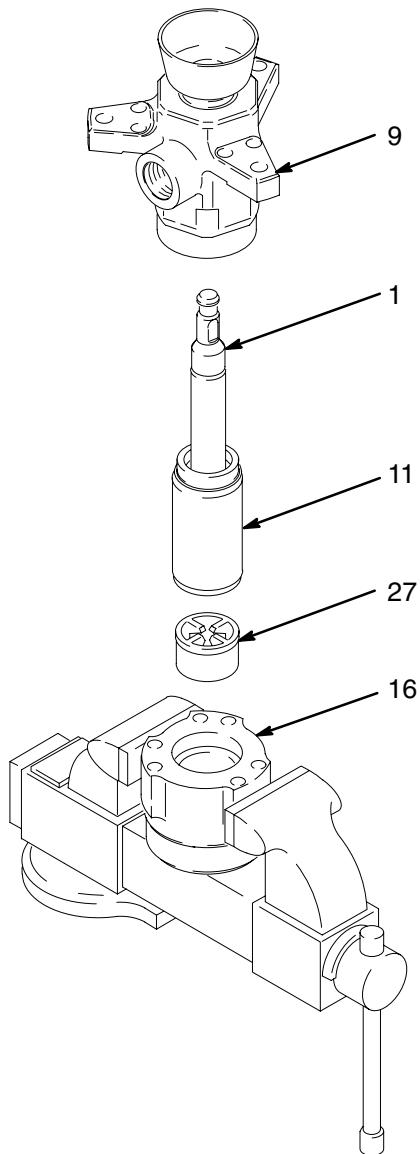

Fig. 6
4. Lift the outlet housing (9) straight up off the pump. Be careful not to scratch the displacement rod (1) while removing the housing. See Fig. 6.
5. Lift the cylinder (11), displacement rod (1), and piston assembly off the intake housing (16). Remove the ball guide (27) from the intake housing, and inspect the guide surfaces. See Fig. 6.
6. Using a rubber mallet, drive the displacement rod (1) and piston assembly out the bottom of the cylinder (11) until the piston comes free. Pull the rod and piston from the cylinder, being careful not to scratch the parts.
5. Lubricate the threads of the packing nut (2), and loosely install it in the outlet housing (9).
6. Lubricate the piston packings. Slide the displacement rod (1) and piston assembly down into the cylinder (11). The cylinder is symmetrical, so either end may face up. Use a rubber mallet to drive the rod into the cylinder, until the piston seat housing (14) is near the bottom of the cylinder.
7. Place the intake ball guide (27) in the intake housing (16). Set the intake housing in the vise, facing upright. See Fig. 6.
8. Install the o-ring (10*) on the bottom of the cylinder (11). Lubricate the o-ring. Place the cylinder on the intake housing (16). Tap the top of the displacement rod (1) with a rubber mallet, to seat the cylinder.
9. Install the o-ring (10*) on the top of the cylinder (11). Lubricate the o-ring. Set the outlet housing (9) on the cylinder.